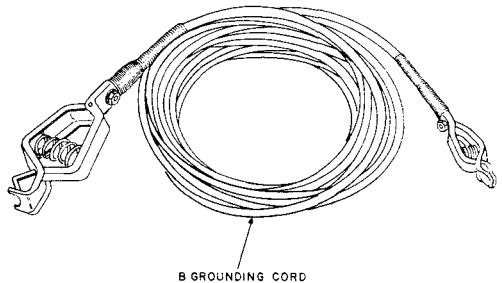
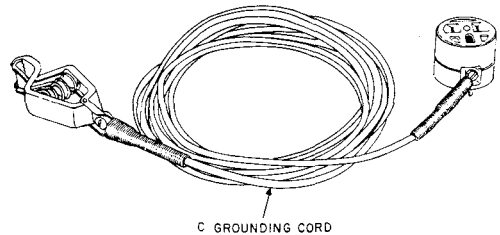

Fig. 4—B Grounding Cord
Fig. 5—C Grounding Cord
3.04 When it is not possible to obtain a ground source at the convenience outlet, either the B (Fig. 4) or C (Fig. 5) grounding cords or a length of grounding wire (14-gauge) may be used.
- (a) The B grounding cord (Fig. 4) is a 15-foot, 18-gauge, single-conductor cord with clips at both ends.
- (b) The C grounding cord (Fig. 5) is identical to the B cord except that it has a clip on one end and a 3-conductor plug adapter on the other end.